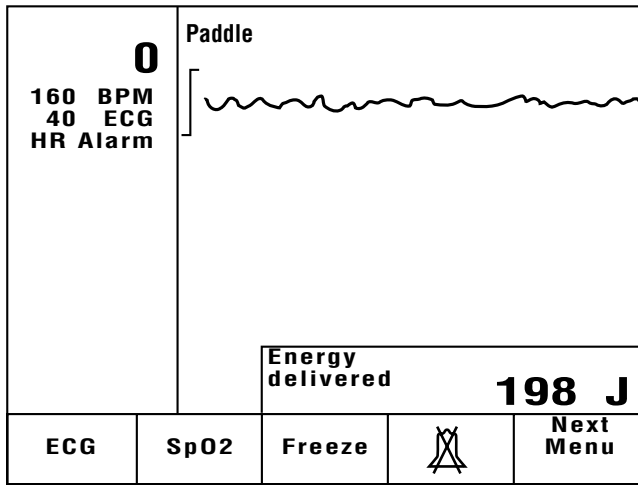
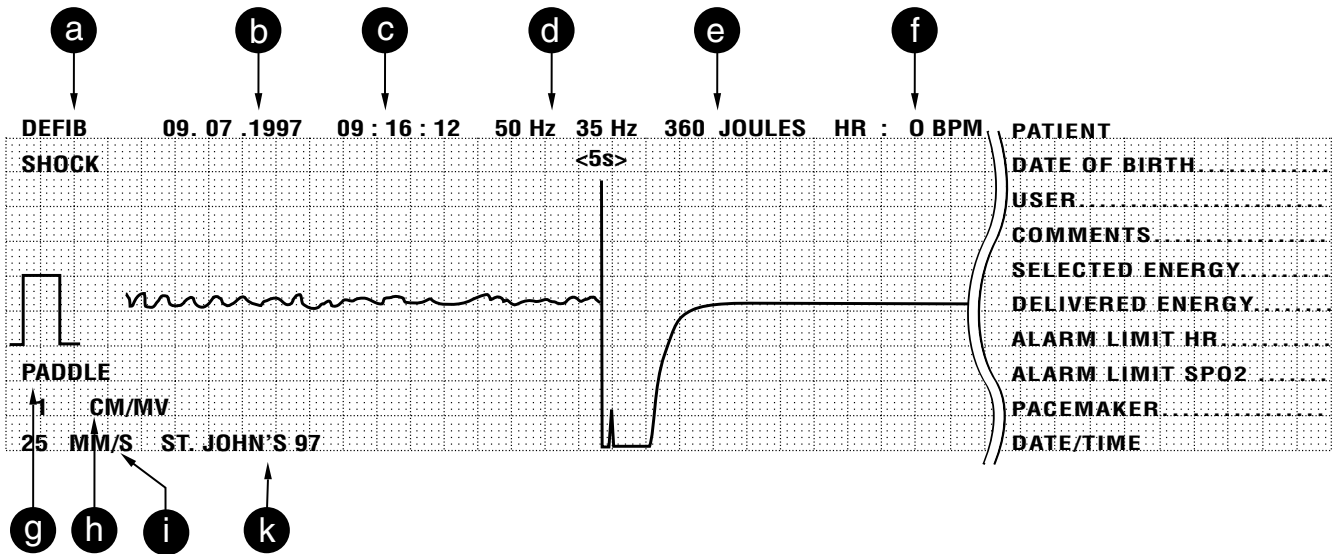

Figure 4-6. Display of delivered energy
Figure 4-7. Example of a recording initiated by a defibrillation pulse
- After defibrillation, the beeping sound stops, and the energy actually delivered is displayed for 10 seconds in place of the stored energy (Figure 4-6). At the same time the recorder writes a 16-second ECG (including a history of 4 seconds) (adjustable, Figure 4-7). CardioServ saves this recording (4 s history, 5 s blanked, 10 s after release of shock), and it can be printed off again at any time. Also refer to section 7 “The Memories of CardioServ”.